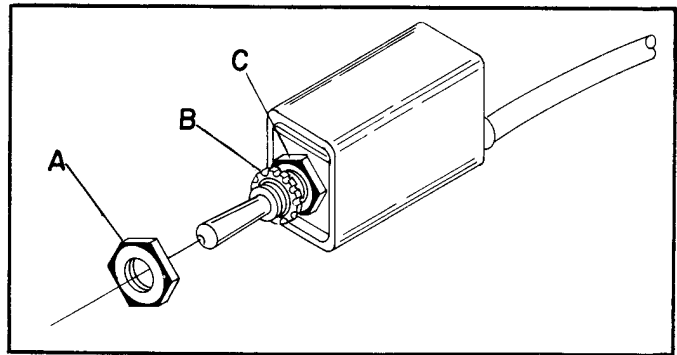

Fig. 7
2. Remove outer hex nut (A) Fig. 7, from switch stem. Leave shakeproof lockwasher (B) and inside hex nut (C) on switch stem. NOTE: The proper grounding of the switch to prevent shock hazard, depends on the use of the shakeproof lockwasher in the manner shown.